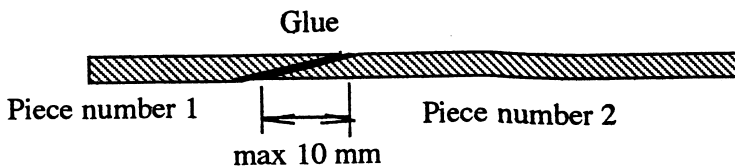

Figure 4d - Spliced Joint - a stronger joint than a butt joint.
d.) A spliced joint is a stronger joint than a butt joint ( See Figure 4d ). Side pieces ( 20 mm long ) may also be used on the sides of this joint.